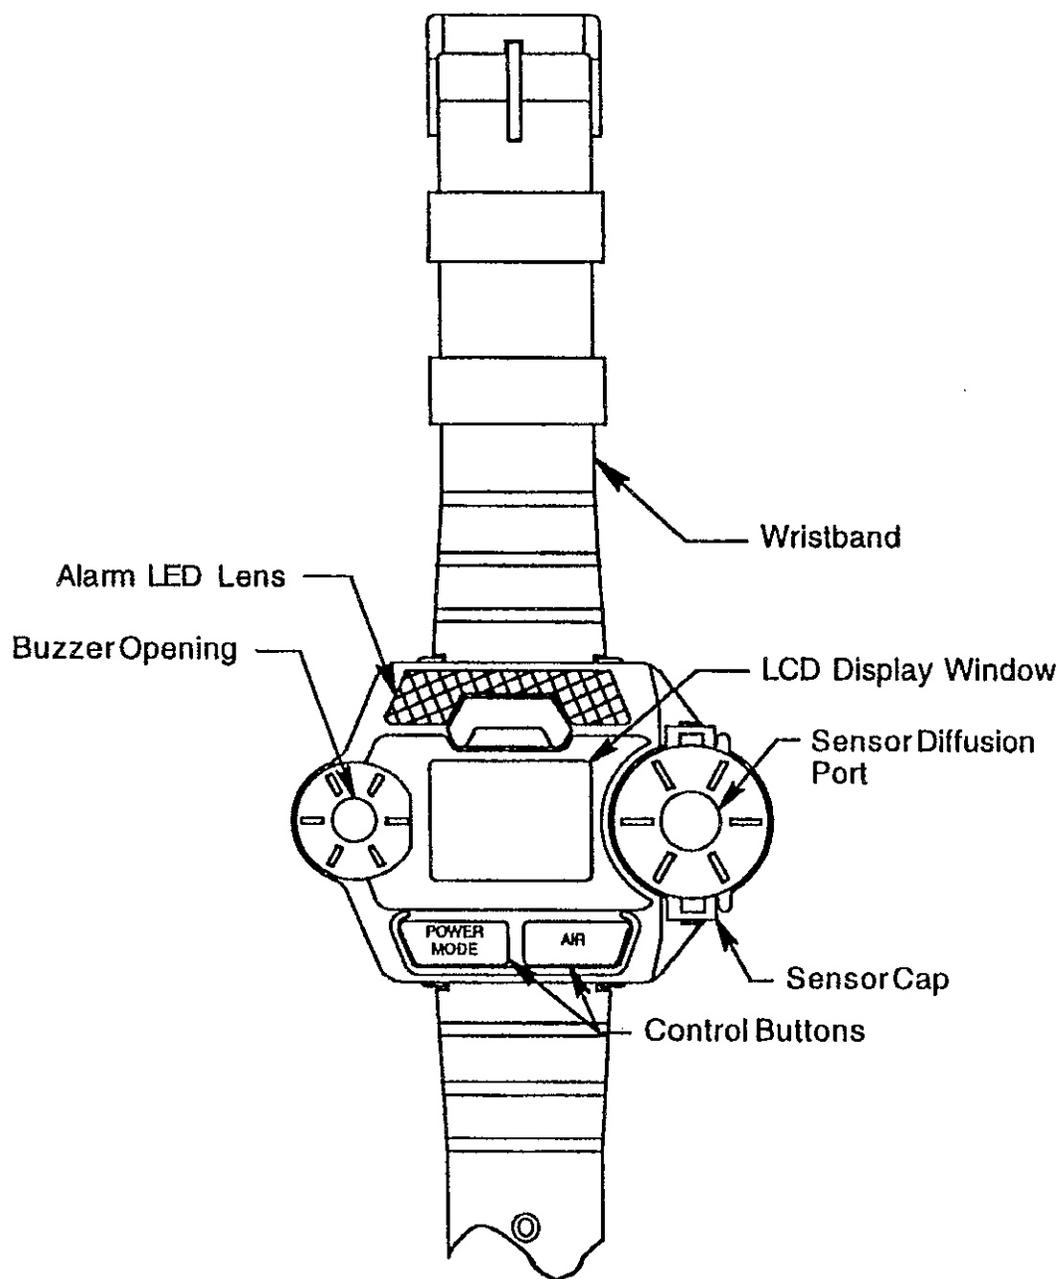

Figure 1: Components of the GasWatch 2
- 5.1.1 In a fresh air environment turn on the GasWatch2 by pressing and holding the POWER/MODE button, fig. 1, for one second.